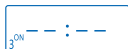

Figure 13 LCD
3.2.2.3.3 Continue to press "TIMER" key, and (2 ON, 2 OFF.....16 ON, 16 OFF) will be displayed in turn on the bottom left corner of the LCD. Set the ON and OFF time of remaining groups according to the above procedure. If the switch is on and off only once a day, you must press "RESET/RECALL" key, and eliminate the time of the remaining groups, so the LCD displays "-: --" as shown in Figure 13.